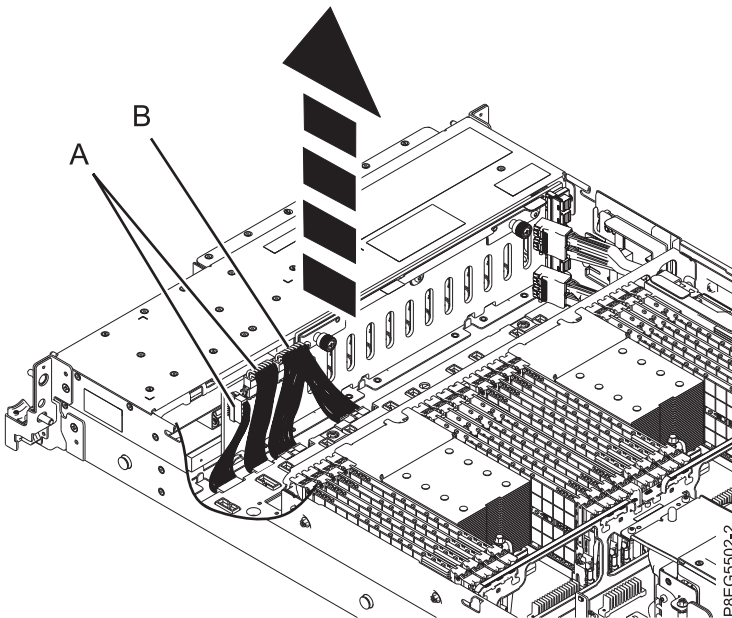

Figure 4. Removing the power, signal, and control panel cables
5. Label, disconnect, and remove the signal and control panel cables (**A**), and the power Y cable (**B**), from the disk drive backplane and the system backplane. See Figure 4.